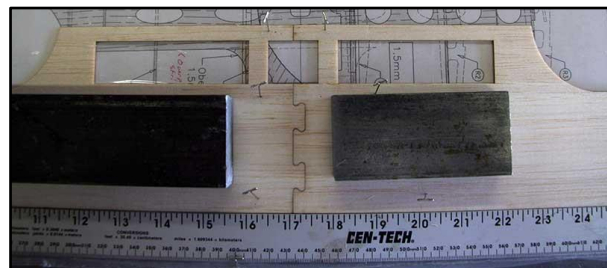

Figure 13: Wing Center Section Glued
4. Lay out the top sheeting pieces with the long leading edge against the straight edge. (See Fig. 13)